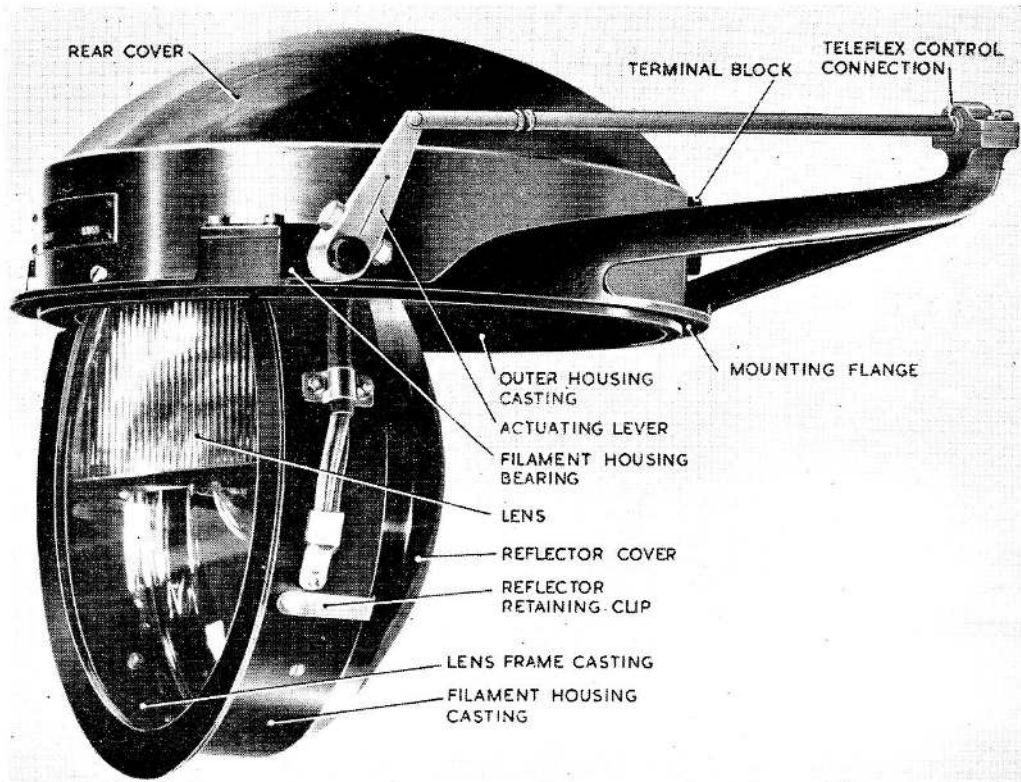

Fig. 1 Harley, Type 8KD, Landing Lamp
2. The Harley, Type 8KD landing lamp consists of the following: the outer housing, the operating mechanism, the filament housing and the filament lamp, and is illustrated in fig. 1. Individual landing lamps are illustrated in the Appendices to this chapter.